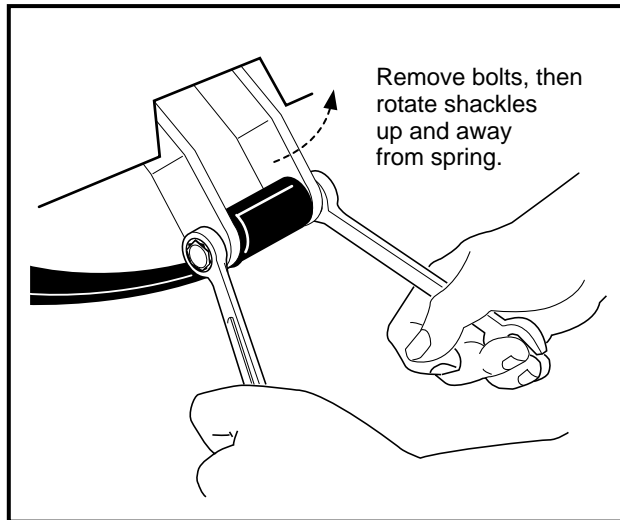

Figure 16-22 Rear Shackles
7. Raise vehicle just enough to relieve tension from leaf springs, then remove the bolts securing the leaf springs to the shackles (**Figure 16-22, Page 16-11**).